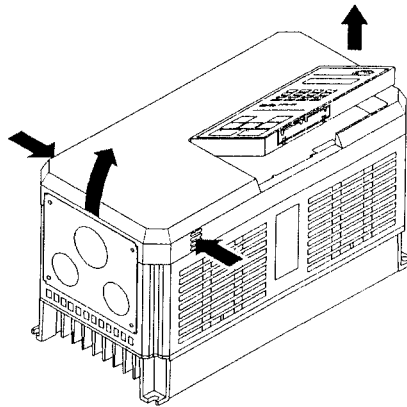

Figure 2-5
12. Remove the drive cover. For Models 2003-AFG+ through 2033-AFG+ and 4001-AFG+ through 4014-AFG+ and 5003-AFG+ through 5022-AFG+. See below, Figure 2-5. On larger size drives, the cover is attached with screws.